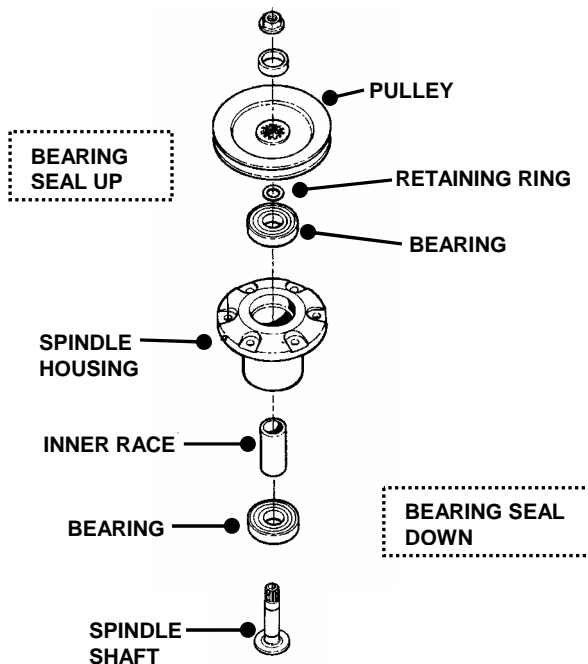

FIGURE 4.17
4. Top and bottom bearings are now removable. Pull out on inner race to slide bearing from housing. See Figure 4.17.